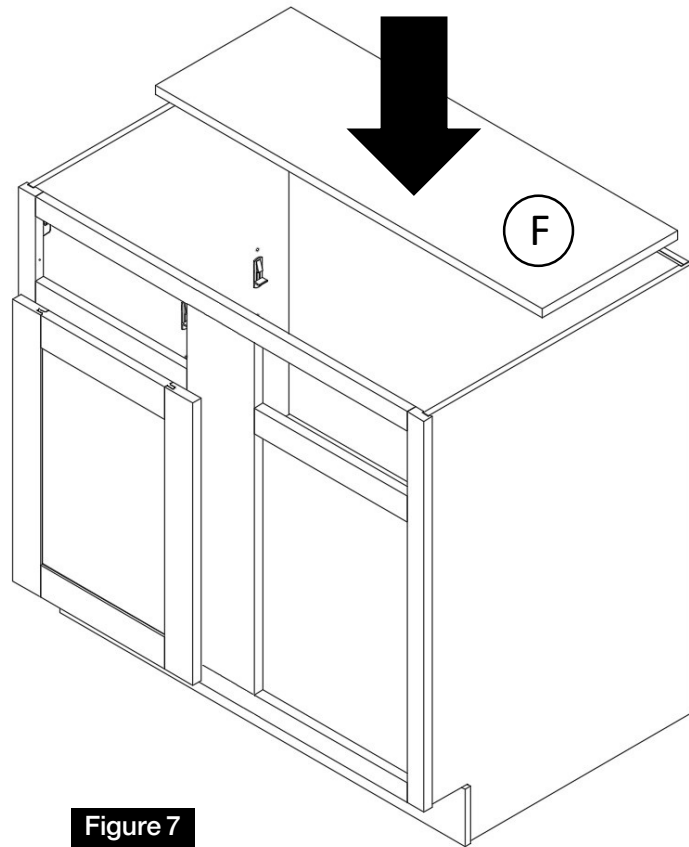

Figure 7
Insert the shelf (F) into the shelf brackets installed in Step 6. (Figure 7)